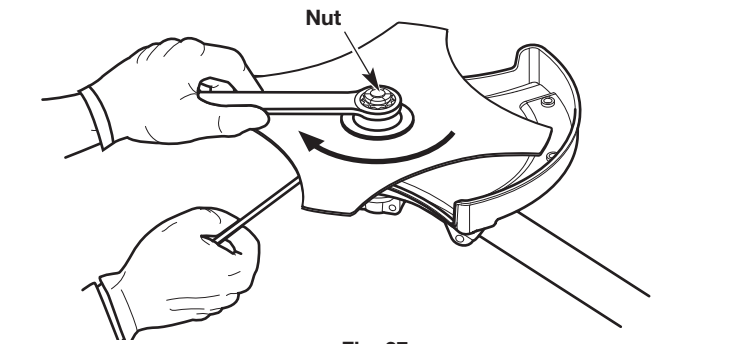

Fig. 27
3. Hold the locking rod in place (Fig. 27).
4. While holding the locking rod in place, unscrew the nut by turning it clockwise with a wrench (Fig. 27).